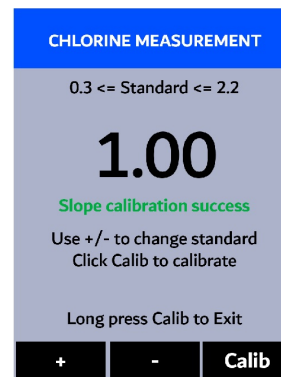

Figure 43.
13. The message “**Slope calibration success**” will appear on the bottom of the display (Figure 43).